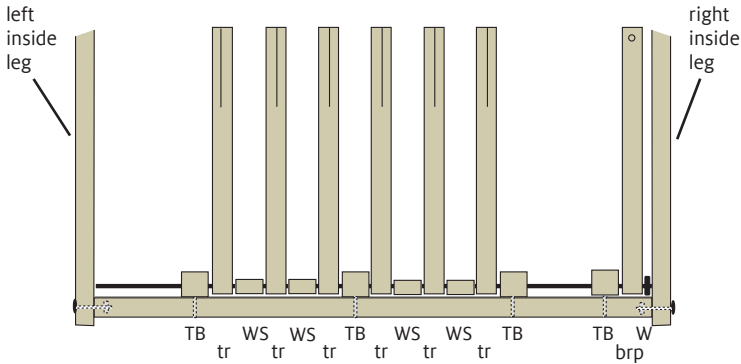

FIGURE 4A: TREADLE ASSEMBLY FOR BABY WOLF OR MIGHTY WOLF 4H LOOM
7. Using a #2 Phillips screwdriver, remove the screws attaching all treadle blocks (TB) to the treadle support (see Figure 4A or 4B below, or 4C on page 4). Remove the metal treadle bar from the treadle support. Remove all parts from the metal treadle bar, saving the plastic spacers (PS), treadle blocks (TB), wooden spacers (WS), and washer (W) for Step 8.
8. Install the new height extender treadsles (tr) and height extender brake release pedal (brp) onto the metal treadle bar with parts saved from Step 7. Follow Figure 4A, 4B, or 4C (page 4), working from left to right.